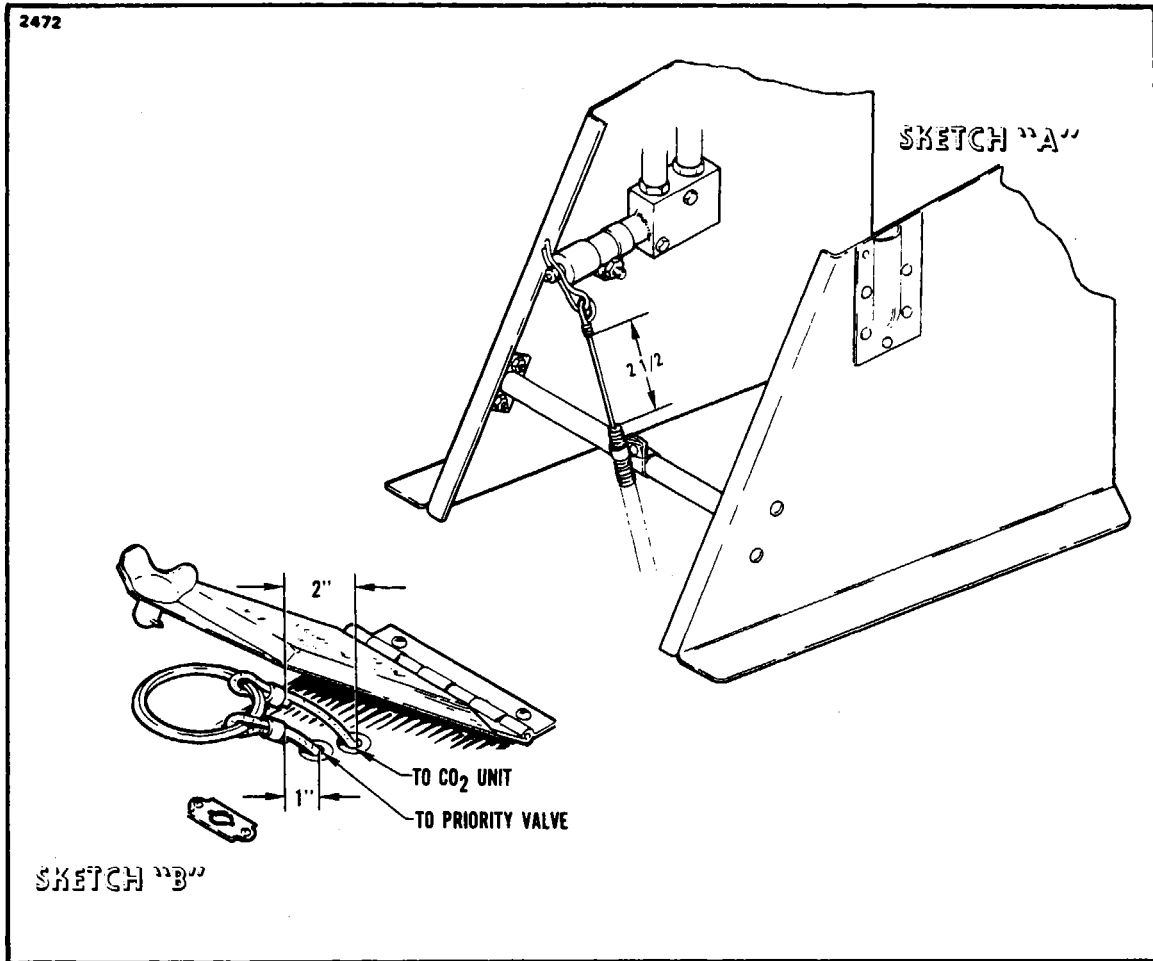

Figure 6-34. Emergency Gear Extender Cable Rigging
6-129. **EMERGENCY GEAR EXTENDER CABLE RIGGING.** (Refer to Figure 6-34.) It is possible that flexing or slipping of the priority valve actuating cable may retard landing gear extension with the CO2 system. If not previously installed, Kit number 756 878 should be installed in aircraft Serial Nos. 27-2505 to 27-2658 inclusive to prevent further flexing or slipping of this cable. The rigging of the cable follows:
- b. Check the 2.50 inch dimension on the end of the cable housing to the pin in the priority valve as shown in Figure 6-34, Sketch "A" and tighten clamp. If necessary, cut end of flexible housing to obtain the 2.50 inch dimension. This dimension must be maintained.
- d. Gently take up the slack in the cable to the CO2 discharge unit so that it will slide up the ring as shown in Figure 6-34, Sketch "B." The CO2 cable should be 1 inch longer than the priority valve cable at this point.